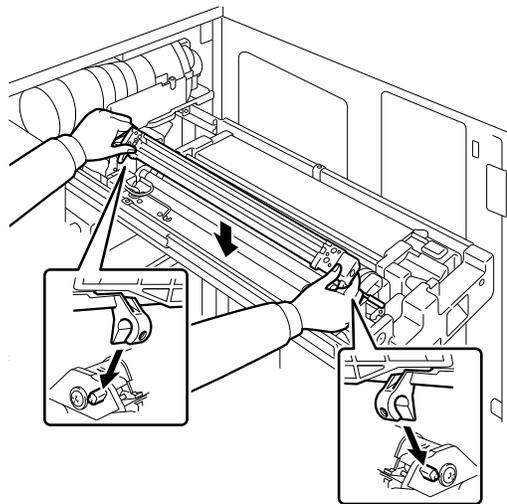

Figure 5-13
13. Install the Main Charger Unit on the OPC Cartridge as show in Figure 5-13.